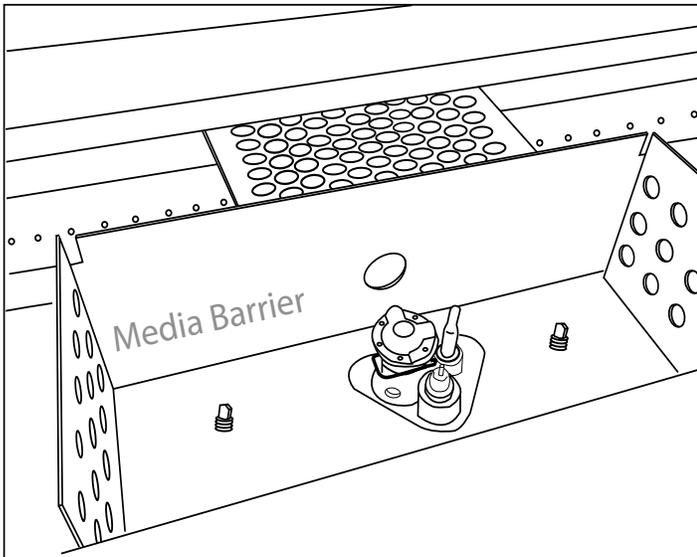

Figure 49 - Pilot box screw locations
**Step 7:** In the center of the burner pan where the pilot is located (See Figure 49), remove the pilot head. **Note:** Some media may need to be removed to gain access.